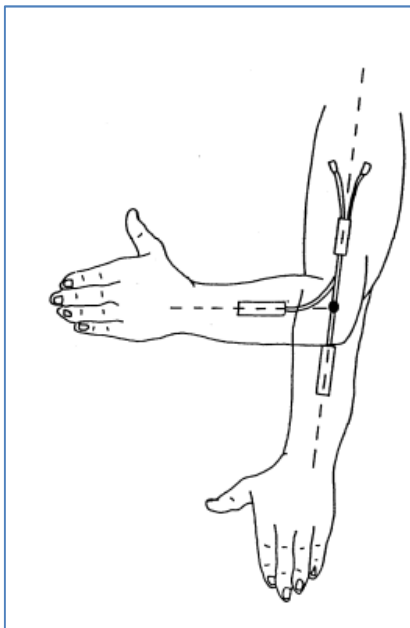

Figure 4: Goniometer's position
- Attach the distal end block (SG 110) to the forearm with the center axis of the endblock coincident with the center axis of the forearm (figure 4).